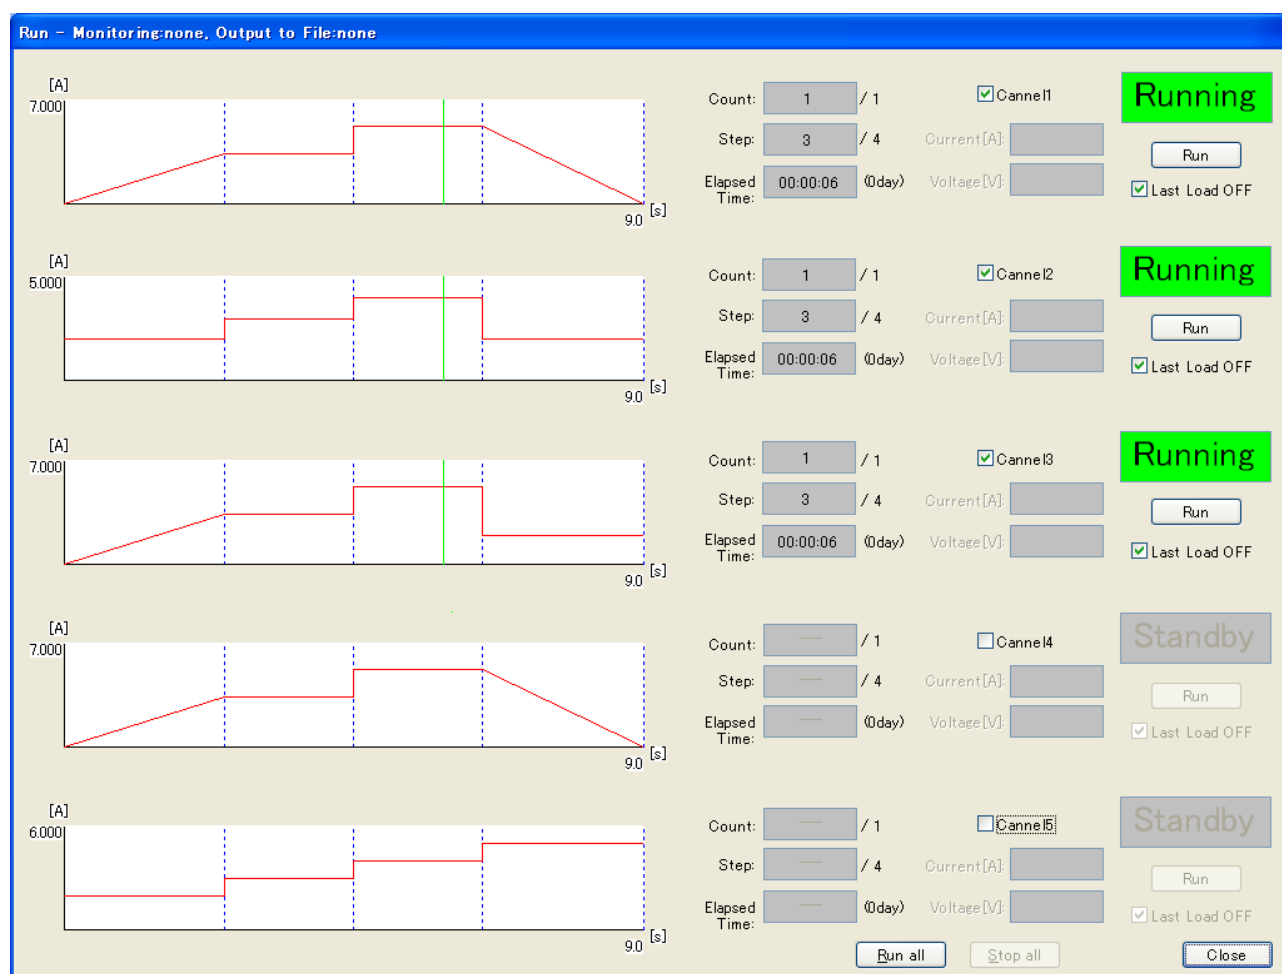

Fig. 6-3 Sequence Being Processed
Fig. 6-3 shows the screen displayed during processing of a sequence.
- \* The position line (green vertical line in Fig. 6-3) indicates the approximate position of the sequence being processed.